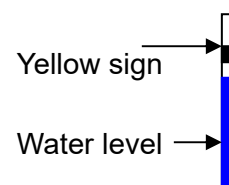

Figure 1
3. Pouring the water (DISTILLED WATER ONLY) into the water reservoir, until the water level nears the "FULL "level signs at outside cover. **Other way you can see water level below yellow sign of exhaust pipe at outside cover (See figure 1)**